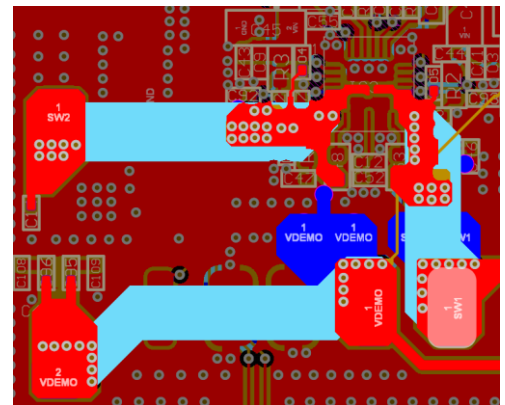

Figure 2: SW2 part of NU1020 EVM
- Widen the copper between SW1, SW2 and LC tank, because high current in the LC tank can cause power losses on the traces and hence low efficiency. Moreover, the Vin routing should be as wide as possible. Refer to figure 2.